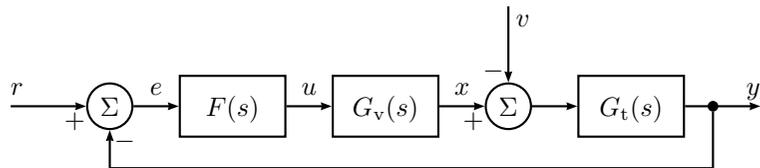

Figure 3.1a
3.1 a) Transfer function of the tank  $G_t(s) = \frac{1}{s}$ . Block diagram see Figure 3.1a.